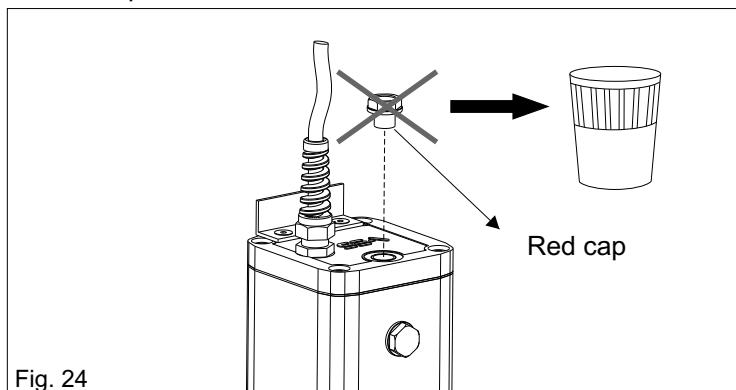

Fig. 24
6. BLEED CAP REPLACEMENT (Fig. 24)